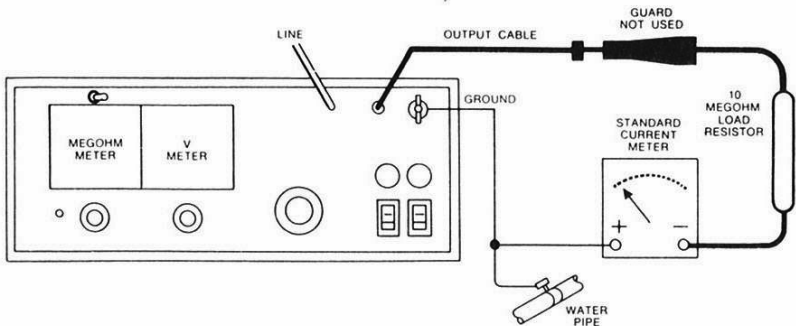

Figure 17: Connections for Calibration of the Megohmmeter.
1. Make connections as shown in Figure 17 using 5 μ A range on standard meter and 100-megohm resistor.